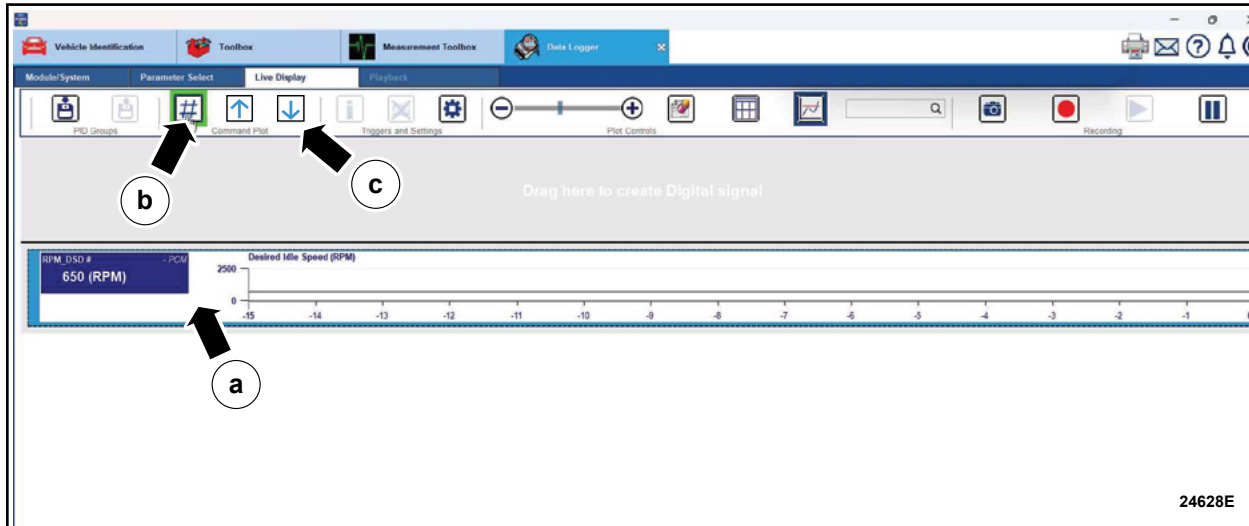

FIGURE 5
11. Enable the RPM command plot. See Figure 5.